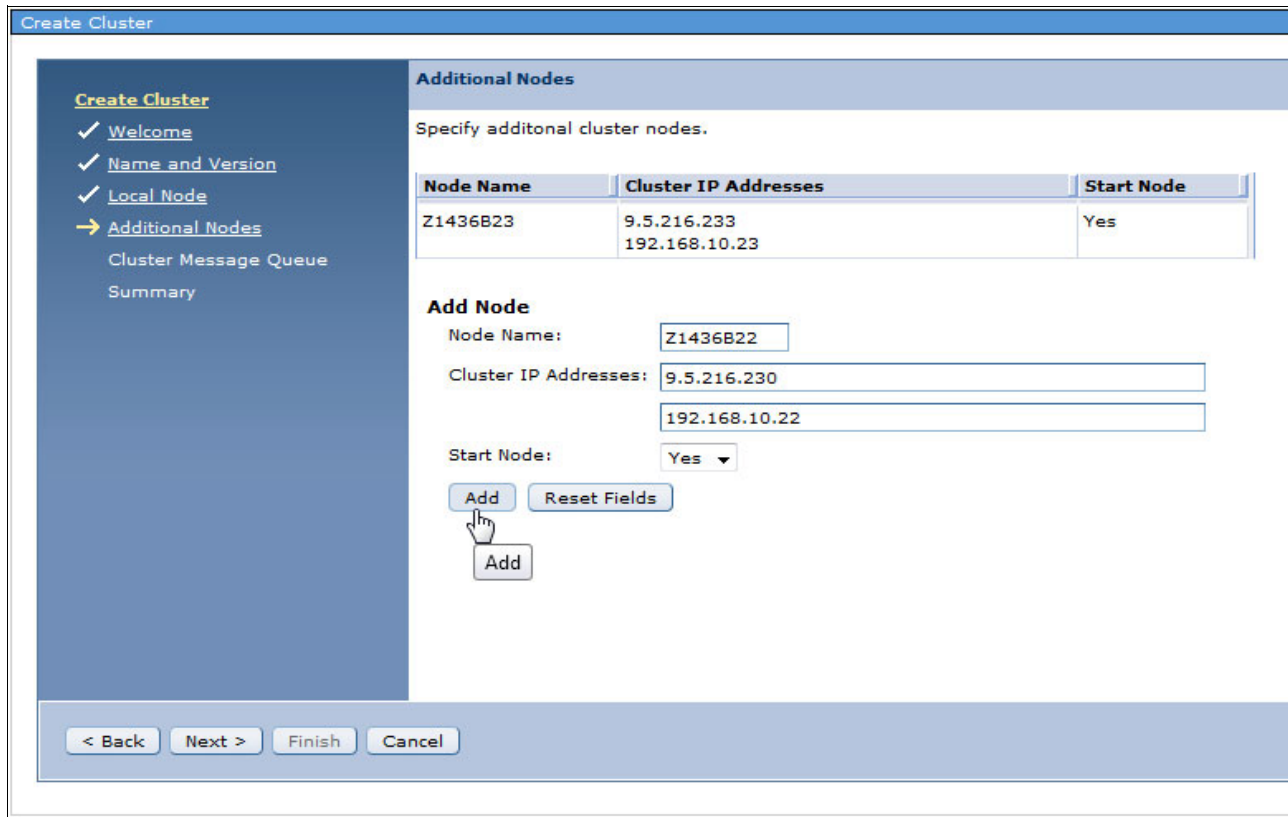

Figure 4-10 Cluster creation, adding the second node
7. In the Create Cluster Additional Nodes panel, specify the information for the second node in the cluster. Click **Add**, as shown in Figure 4-10, and specify the node name and the IP addresses for the second cluster node. You can also specify whether clustering is started after the creation of the cluster is finished.